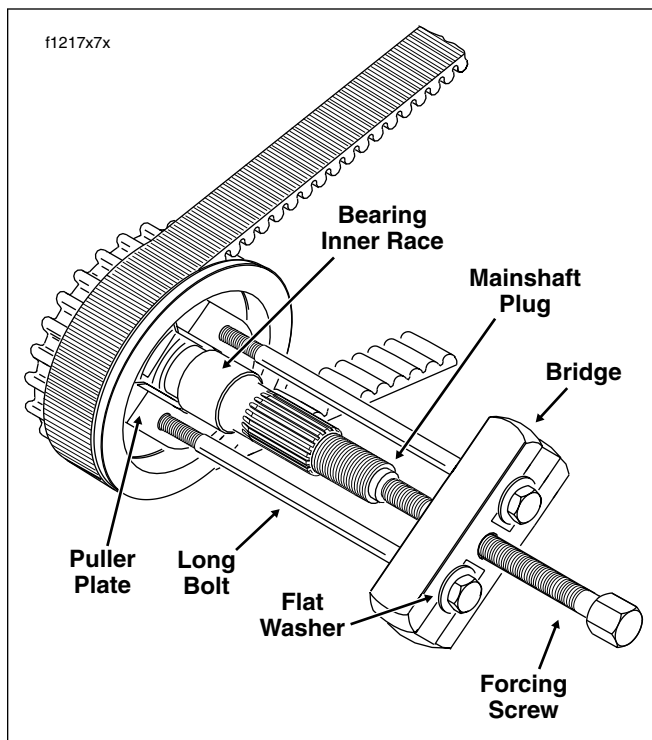

Figure 6-23. Pull Mainshaft Bearing Inner Race
3. Position U-shaped puller plate between bearing inner race and sprocket nut. See Figure 6-23.